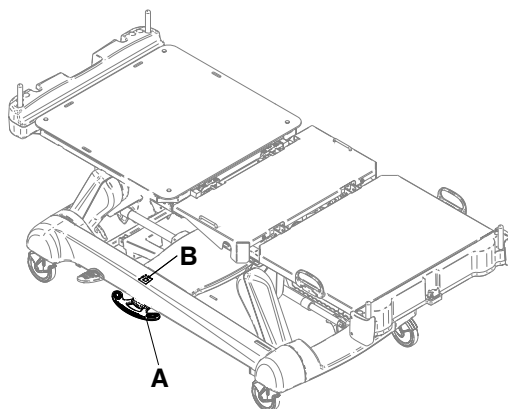

Figure 7: Brake pedal window
2. Fully depress the brake pedal (A) until **Brake** appears in the brake pedal window (B) (Figure 7 on page 25).
To release the manual brakes, depress the pedal until **Neutral** or **Drive** appears in the brake pedal window (B) (Figure 7 on page 25).